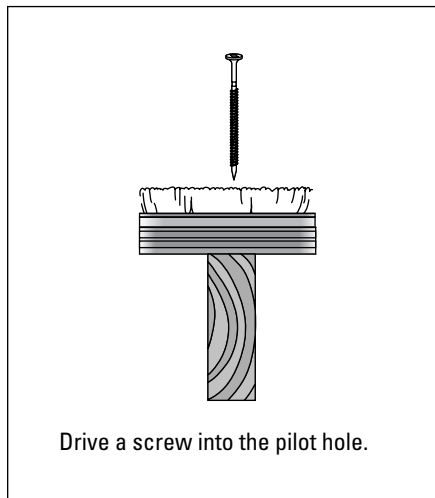

Figure 4-9:
3. Drive a construction screw into the pilot hole, through the carpet, pad, and so on (see Figure 4-9).